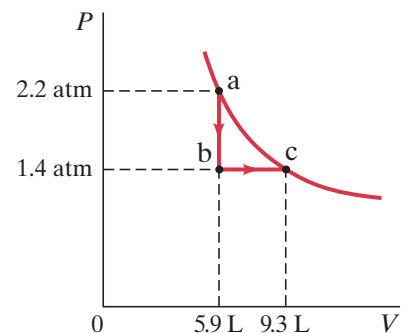

FIGURE 15–22
- (I) An ideal gas expands isothermally, performing $4.30 \times 10^3 \text{ J}$ of work in the process. Calculate (a) the change in internal energy of the gas, and (b) the heat absorbed during this expansion.
- (I) One liter of air is cooled at constant pressure until its volume is halved, and then it is allowed to expand isothermally back to its original volume. Draw the process on a PV diagram.
- (II) Sketch a PV diagram of the following process: 2.5 L of ideal gas at atmospheric pressure is cooled at constant pressure to a volume of 1.0 L , and then expanded isothermally back to 2.5 L , whereupon the pressure is increased at constant volume until the original pressure is reached.
- (II) A gas is enclosed in a cylinder fitted with a light frictionless piston and maintained at atmospheric pressure. When 254 kcal of heat is added to the gas, the volume is observed to increase slowly from 12.0 m^3 to 16.2 m^3 . Calculate (a) the work done by the gas and (b) the change in internal energy of the gas.
- (II) A 1.0-L volume of air initially at 3.5 atm (gauge) pressure is allowed to expand isothermally until the pressure is 1.0 atm . It is then compressed at constant pressure to its initial volume, and lastly is brought back to its original pressure by heating at constant volume. Draw the process on a PV diagram, including numbers and labels for the axes.
- (II) The pressure in an ideal gas is cut in half slowly, while being kept in a container with rigid walls. In the process, 465 kJ of heat left the gas. (a) How much work was done during this process? (b) What was the change in internal energy of the gas during this process?
- (II) In an engine, an almost ideal gas is compressed adiabatically to half its volume. In doing so, 2630 J of work is done on the gas. (a) How much heat flows into or out of the gas? (b) What is the change in internal energy of the gas? (c) Does its temperature rise or fall?
- (II) An ideal gas expands at a constant total pressure of 3.0 atm from 410 mL to 690 mL . Heat then flows out of the gas at constant volume, and the pressure and temperature are allowed to drop until the temperature reaches its original value. Calculate (a) the total work done by the gas in the process, and (b) the total heat flow into the gas.
- (II) 8.5 moles of an ideal monatomic gas expand adiabatically, performing 8300 J of work in the process. What is the change in temperature of the gas during this expansion?
- (II) Consider the following two-step process. Heat is allowed to flow out of an ideal gas at constant volume so that its pressure drops from 2.2 atm to 1.4 atm . Then the gas expands at constant pressure, from a volume of 5.9 L to 9.3 L , where the temperature reaches its original value. See Fig. 15–22. Calculate (a) the total work done by the gas in the process, (b) the change in internal energy of the gas in the process, and (c) the total heat flow into or out of the gas.